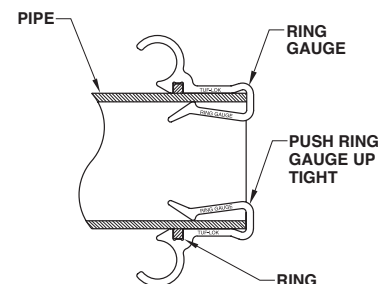

Fig. 4
4. Make sure the nylon ring gauges are pushed up tightly to the end of the pipe in order for the ring to be located in the proper position. (see Fig. 4).